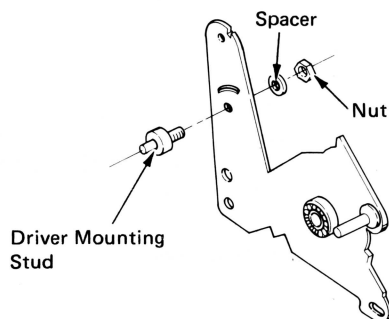

Figure 1
5. Install stud through the hole in the backplate and secure with washer and nut (Figure 1).